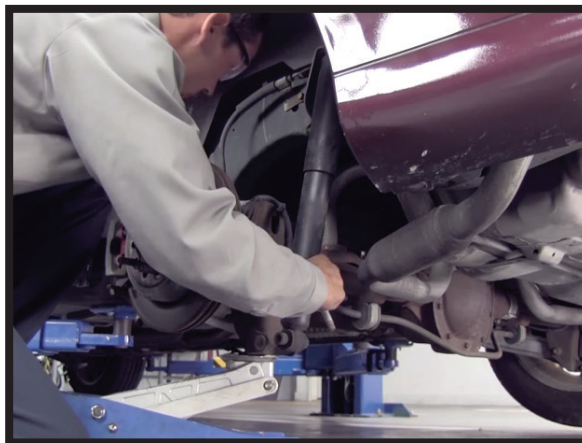

FIGURE 10-5
12. Remove both upper and lower shock bolts. Allow axle to hang free unsupported. This will give you extra clearance for the coil spring. (FIGURE 10-5)